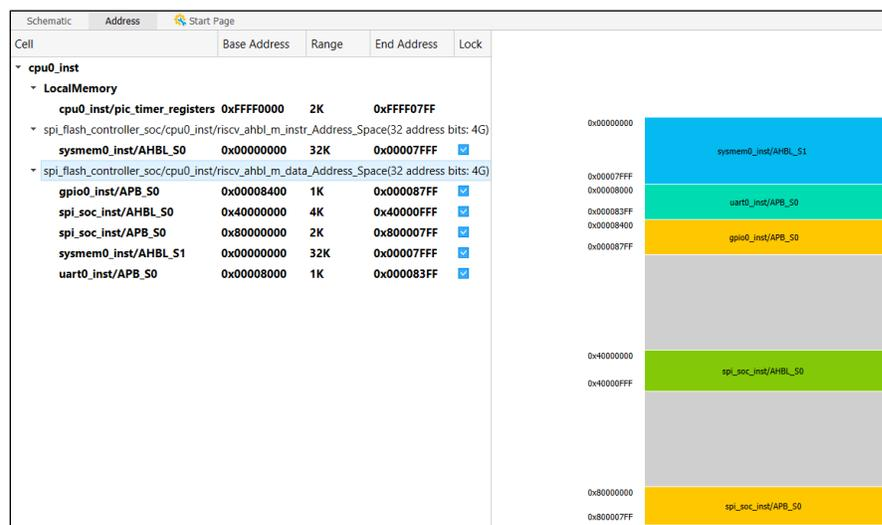

Figure 6.6. Address Tab
9. View the memory space of the project by selecting the **Address** tab as shown in Figure 6.6. Enable **Lock** for the address space settings so that the settings cannot be manually or automatically updated.